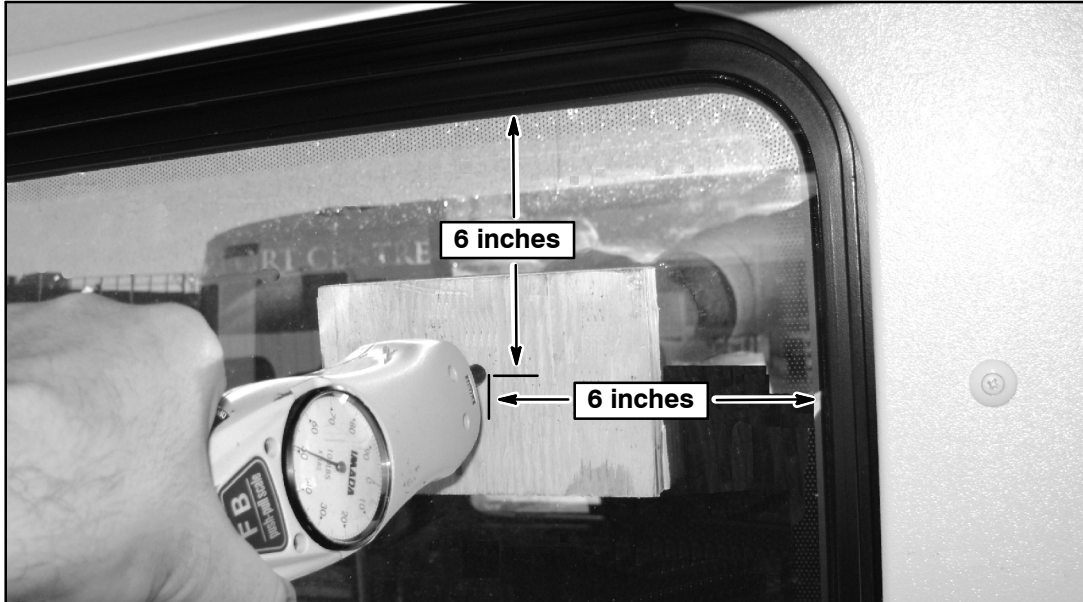

Figure 1.
3. From inside the coach, carefully position a 4.0 x 4.0 x 0.5 inch flat wood block flat against glass surface six inches from both edges (Figure 1). Position a push / pull gauge at center of wood block and apply 50 lbs. push force against glass perpendicular to the glass surface, to accentuate any partial de-bonding.